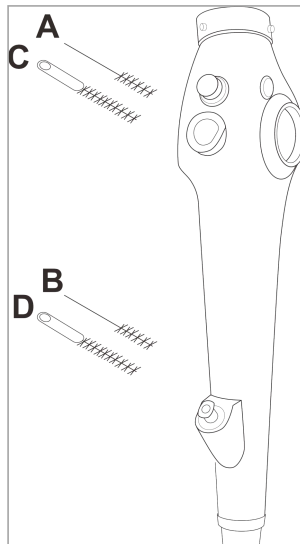

Fig. 7.13
Follow all the steps below to clean all channels and channel openings when the Small Animal Endoscope is still immersed in the washing liquid (as shown in Fig. 7.13)
3. As shown in Fig. 7.13 A, insert the channel cleaning brush into the suction button opening, and push it in through the insertion section until it sticks out of the Small Animal Endoscope.
2. As indicated by B in Fig. 7.13, insert the channel cleaning brush vertically into the biopsy channel. Tap gently and pass the cleaning brush through the biopsy channel until it extends from the tip of the Small Animal Endoscope.
1. As shown in Fig. 7.13 C, insert the channel opening cleaning brush into the suction base opening until it can reach more than half of its depth.
1. As shown in Fig. 7.13 D, insert the channel opening cleaning brush into the biopsy channel opening until the brush handle contacts the channel opening.